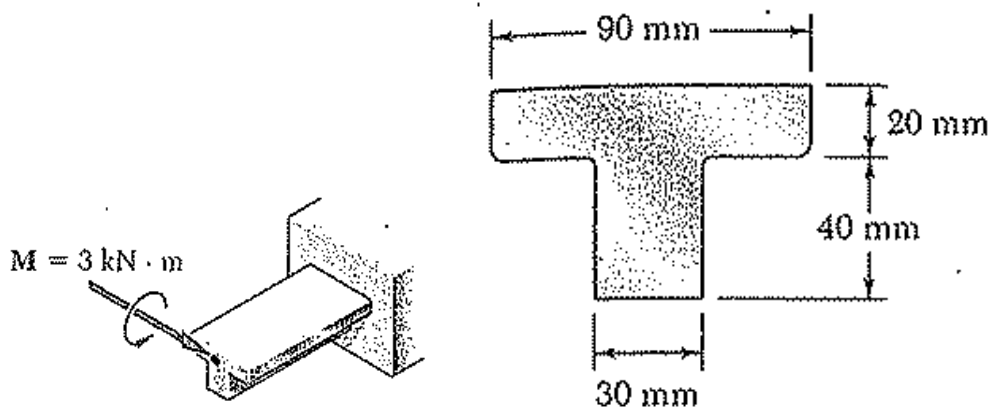

Figure 4.1
- b) A cast iron machine part shown in Figure 4.1 is acted upon by the 3 kNm couple shown. Knowing that $E = 165 \text{ GPa}$ and neglecting the effect of fillets. Determine: